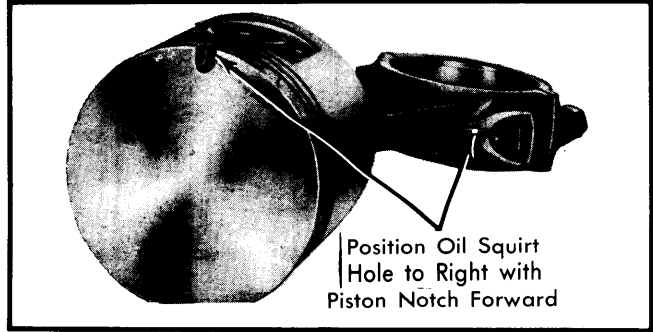

Fig. 7 Piston and Connecting Rod Assembly
**NOTE** — Notch on piston head must be toward front of engine and connecting rod oil squirt hole should be facing to the right. See Fig. 7.